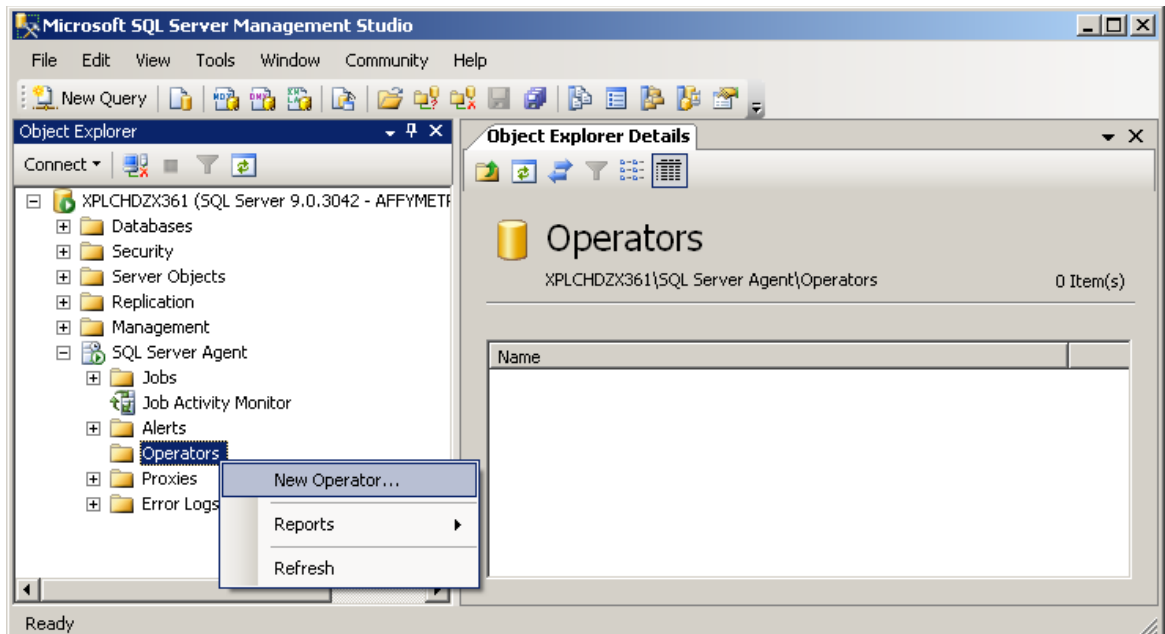

Figure 7.9 SQL Server Management Studio
1. Click **Start** → **Programs** → **Microsoft SQL Server 2005** → **SQL Server Management Studio** (Figure 7.9).